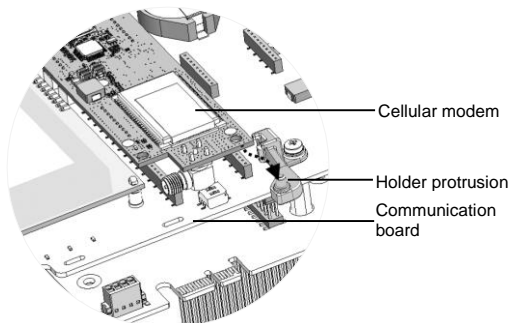

Figure 9: Installing the cellular modem on the holder
- 3** Locate the cellular modem in its place on the communication board, as shown in Figure 9. Follow these guidelines: